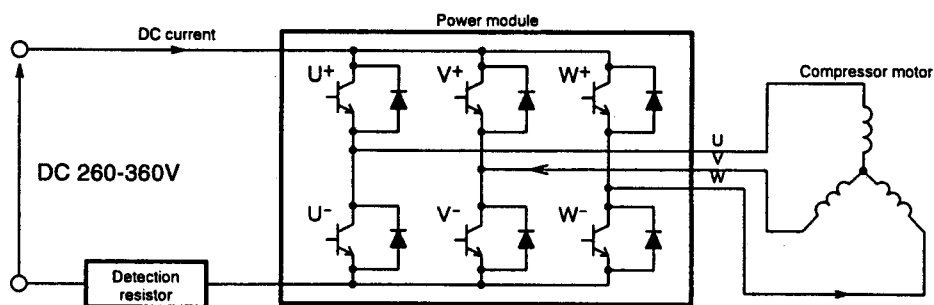

Fig. 8-9
- (1) Turns on the power module's U⁺ and V⁻ transistors so the current flows to the motor windings as shown in Fig8-9.